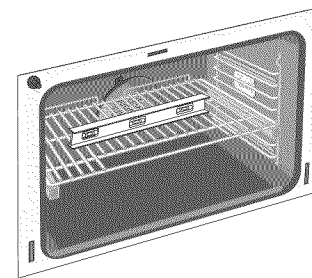

Figure 8
3. Check if the range is level by installing an oven rack in the center of the oven and placing a level on the rack (Figure 8).